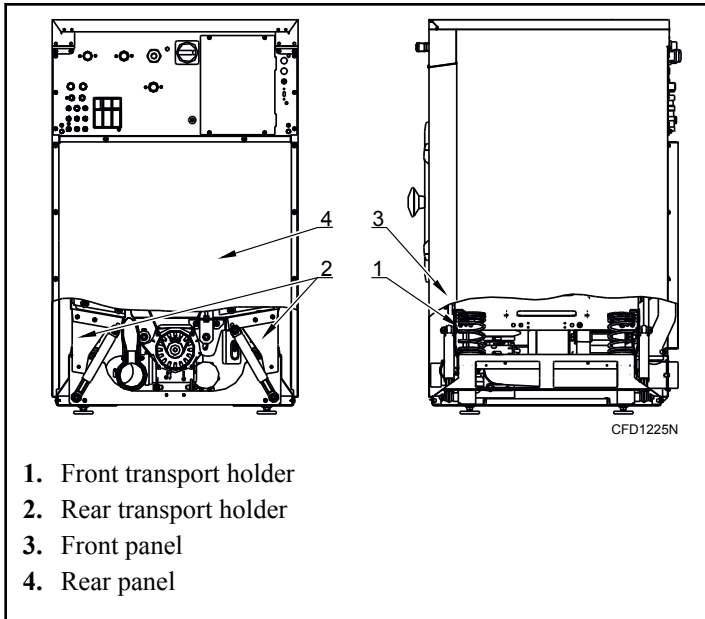

Figure 7
1. Remove front and rear panel, refer to *Figure 7*.